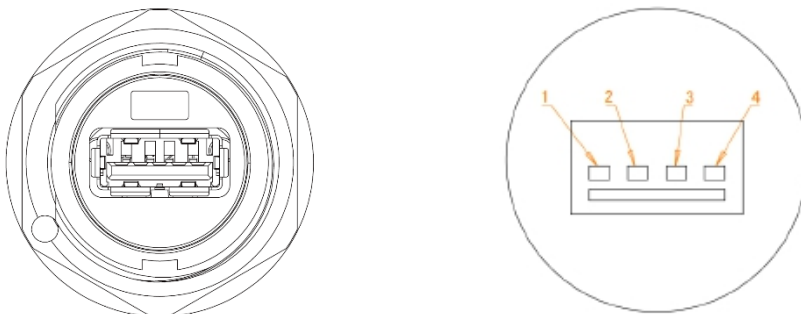

Figure 5-12 RS485 pins
2. The detail of the USB RS 485 as shown in Figure 5-12;